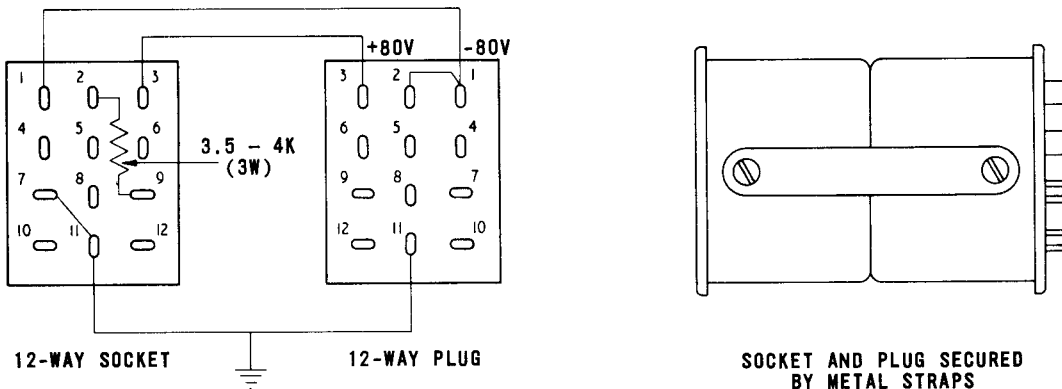

Fig. 2.1 12-WAY PLUG AND SOCKET ADAPTOR
- Fig.2.1 12-way Plug and Socket Adaptor
(a) Construct a 12-way plug and socket adaptor as shown in Fig.2.1 and connect it between the machine external 12-way plug and the signal socket. Ensure that there is no line voltage from any other machine on the signal socket.